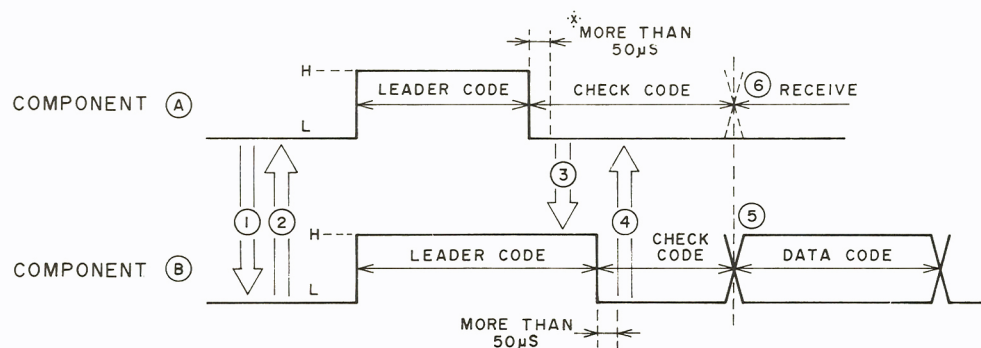

Fig. 5-9
2. An interval of 50 μ sec min. shall be provided after the lowering to 'L' before checking the bus (Fig. 5-9).